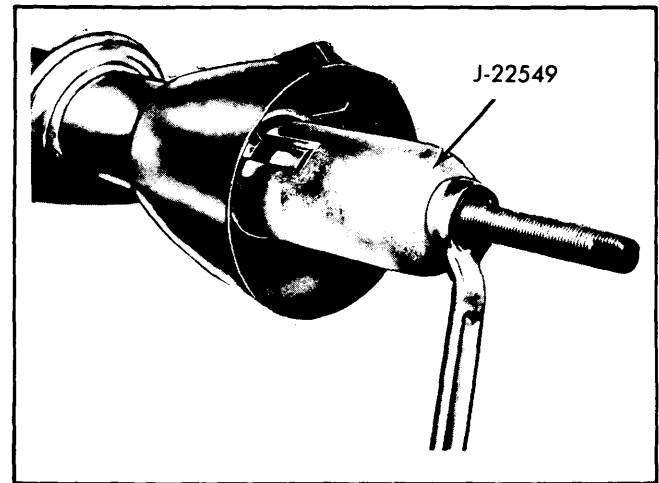

Fig. 14 Installing Shift Tube
4) Remove pivot pins using suitable tool (J-21854) as shown in Fig. 14. Remove intermediate shaft assembly or lower flange to allow shaft to be pulled up through column. Pull on release lever to disengage lock shoes. Pull upward on bearing housing to extend rack full down, and move housing assembly to left to disengage rack from actuator. Remove actuator rod assembly.